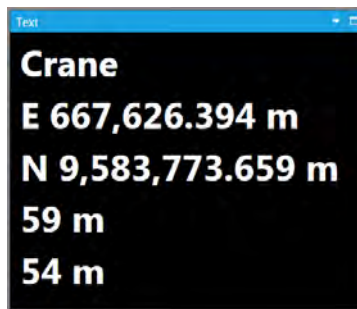
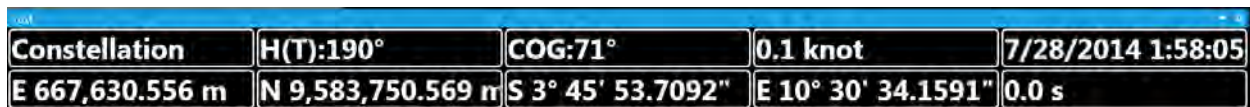
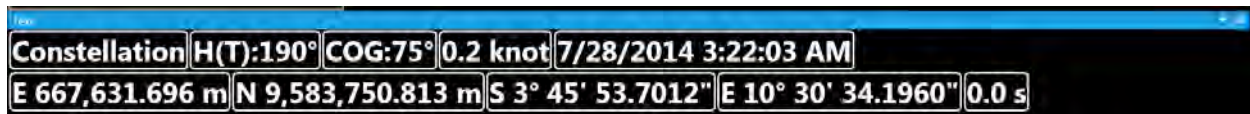

FIGURE 8-7 TEXT WINDOW – SINGLE COLUMN - NO BORDERS
FIGURE 8-8 TEXT WINDOW – HORIZONTAL, UNIFORM WIDTH WITH BORDERS
FIGURE 8-9 TEXT WINDOW - HORIZONTAL WITH BORDERS
The Custom Text window provides a comprehensive configurable display capable of presenting virtually any data received and generated by NavView. The flexibility of the presentation is illustrated in Figure 8-7, Figure 8-8 and Figure 8-9.
- Uniform width** Check this box to display the cells in each row uniformly distributed with equal widths. Note this uniformity is row by row, i.e. the cells in a row with 3 items will not have the same widths as those in a row with 4 items. Figure 8-8 illustrates a window with **Uniform width** enabled, Figure 8-9 is the same window without **Uniform width** enabled.
- Show border** Check this to display each cell with a border. Figure 8-7 is an example of no borders, Figure 8-8 is an example with borders.